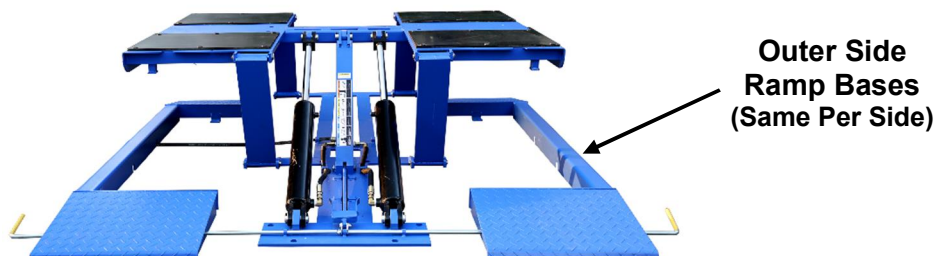

Fig. 9
- 1) Carefully position the **outer side ramp bases** around the parameter of pad lift, making sure there is approx. 1/2+space between outer ramp bases and pad lift base per each side. **Fig. 9**